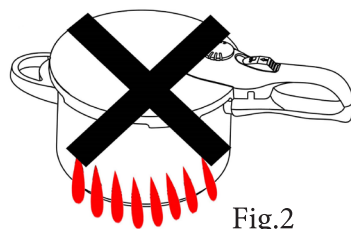

Fig.2
5. The pressure cooker should be used on a steady oven. Don't put the pressure cooker on electric oven that has a bigger plate's diameter than the cooker's bottom. When cooking on a gas oven, the fire shall not reach the cooker's wall (Fig. 2). The pressure cooker is applicable to electricoven, electromagnetism oven, gas oven etc. with below 1.5kw.